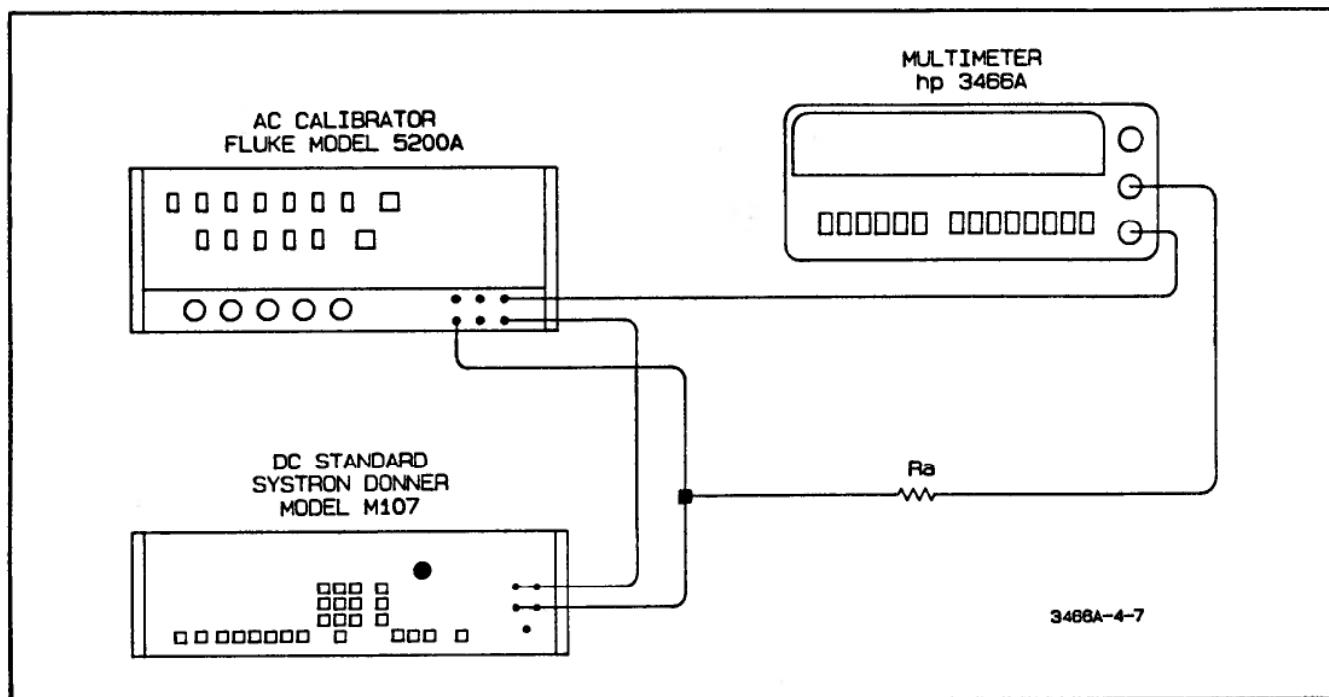

Figure 4-7. True RMS Ammeter Accuracy Test
b. Connect the DC Standard and AC Calibrator to the 3466A as shown in Figure 4-7. Use the Resistor Decade Box to select the value of Ra.